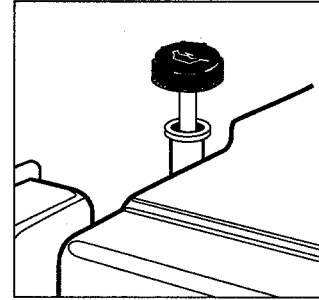

Figure 2-10: Remove dipstick at top of engine to add motor oil. See engine manufacturer literature for important motor oil specifications.
3. Remove the engine oil dipstick from the oil fill tube. The dipstick is located near the top of the engine (all engine makes are similar in this regard — see your engine manufacturer literature for specifics regarding your engine). Refer to Figure 2-10. Place a clean oil funnel into the oil fill tube.